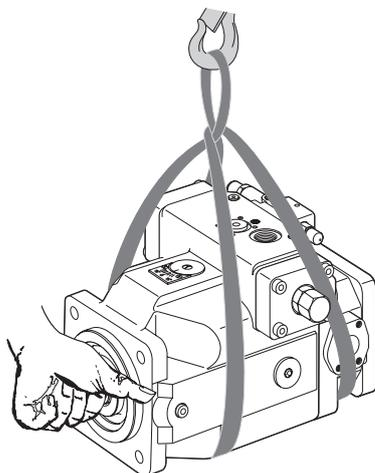

Fig. 17: Transport with lifting strap
- ▶ Place the lifting strap around the SYDFE1 control system in such a way that it neither passes over the attached parts (e.g. valves) nor such that the SYDFE1 control system is hung from attached parts (see Fig. 17).